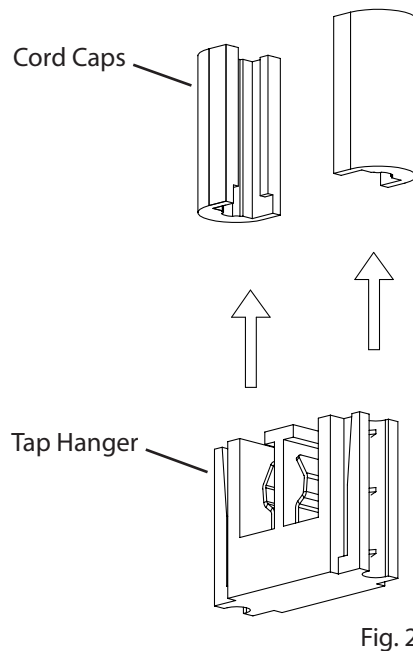

Fig. 2
2. Repeat for the other **Arm** (Fig. 2).
1. The Linear **Power Bar** comes with a spacer clip pre-installed at the center of the Power Bar (Fig. 2).
1. Install the **Double Cord (or Rod) Power Feed Hanger** onto the **Power Bar**: press down firmly on the top of the Power Bar, while pressing up on the bottom of the Hanger, until the Power Bar clicks into place (Fig. 2).
3. Remove **Cord Caps** from **Tap Hanger** by sliding them up and off the sides of the **Tap Hanger** (Fig. 2).
2. Pass the **Ceiling Hanger Rod/Cable** through the **Power Bar**, then through the center hole of the **Cover**, making sure the countersunk holes on the Cover are facing up. Attach the **Cover** to the **Hanger** using the two small **Phillips Screws** (Fig. 2).
3. For Hanger with **Stem**: Hand screw the Stem onto the Ceiling Hanger. (Fig. 2)
- b. For Cable Hanger: Insert **Cable** into Post, then adjust to the desired length: to shorten, push the Cable up; to lengthen, push in the **Plunger** while pulling down on the cable, release the Plunger to lock. Cut off the excess cable where it exits the Post (Fig. 2).